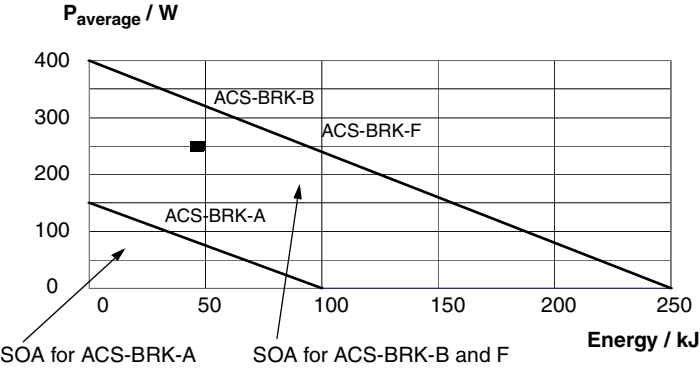
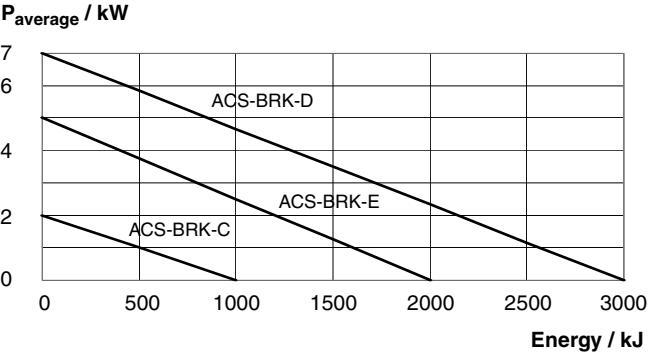

Figure 10 Safe operating area (SOA) for types ACS-BRK-A, -B and -F.
Figure 11 Safe operating area (SOA) for types ACS-BRK-C, -D and -E.
- 6 Choose the brake unit from the figure so that the operating point is within safe operating area. See Figure 10 and Figure 11.
The resulting point 250 W, 45 kJ is out of the safe operating area of ACS-BRK-A but within that of ACS-BRK-B and -F, see Figure 10. Table 7 shows that with the line voltage of 240 V AC, ACS-BRK-F is the correct selection.